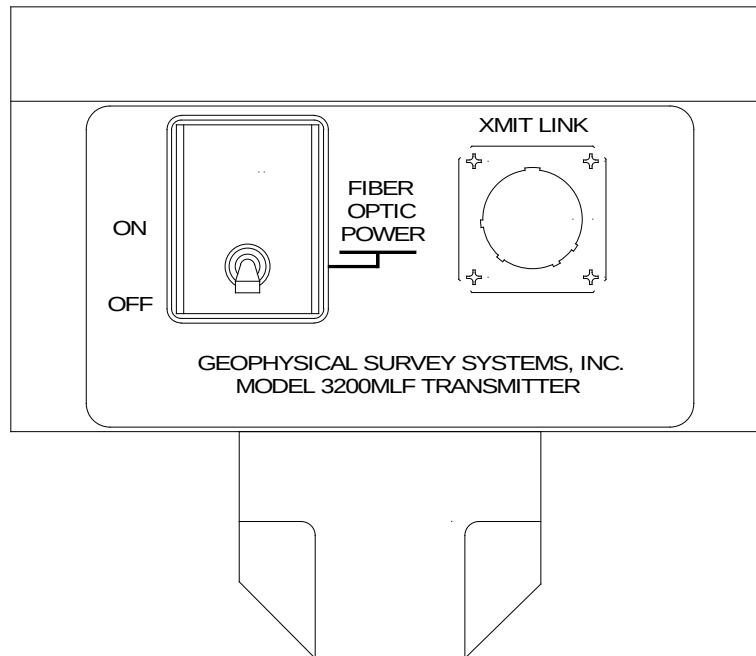

Figure 1: Model 3200 MLF Transmitter.
The model 3200 MLF is composed of separate transmitter and receiver antennas. Please refer to the connector plate diagrams (Figures 1 & 3) below when assembling the antenna units.
- 1** Connect all units and cables (Figures 1 & 2).
- The antenna is supplied with two (2) 12 VDC fiber-optic batteries. One is placed in the transmitter (Figure 1). The other battery is a spare that can be stored in the compartment in the receiver housing.